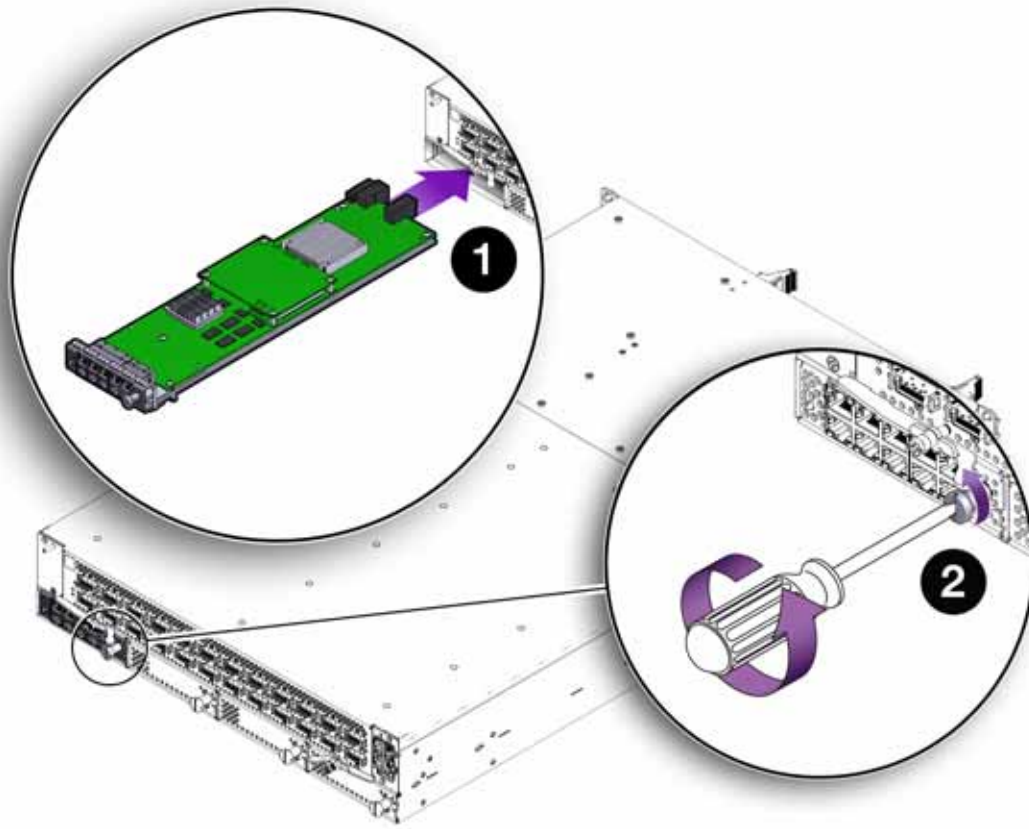

Figure 17 Inserting a VP560 I/O Module
- Step 3 Grasp the module handle and remove the I/O module blank (2).
- Step 5 Gently insert the I/O module (1) as shown in Figure 17 on page 37. Ensure that the I/O module is oriented so that the sheet metal side is facing down and the module's faceplate is facing you. Also, ensure that the module is aligned with the slot before sliding it into the chassis.